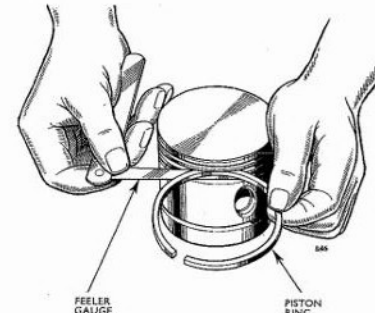

Fig. B.39. Checking piston ring to groove vertical clearance, using a feeler gauge
3. Check the piston rings for vertical clearance all round their respective grooves (see Fig. B.39). If the clearance is appreciably in excess of .002 in. to .004 in. (.051 mm. to .102 mm.) on either the compression, or
With a feeler gauge, check the rings for correct vertical clearance all round their respective piston grooves (see Fig. B.39). This clearance, when new, should be .002 in. to .004 in. (.051 mm. to .102 mm.) for both compression and scraper rings.